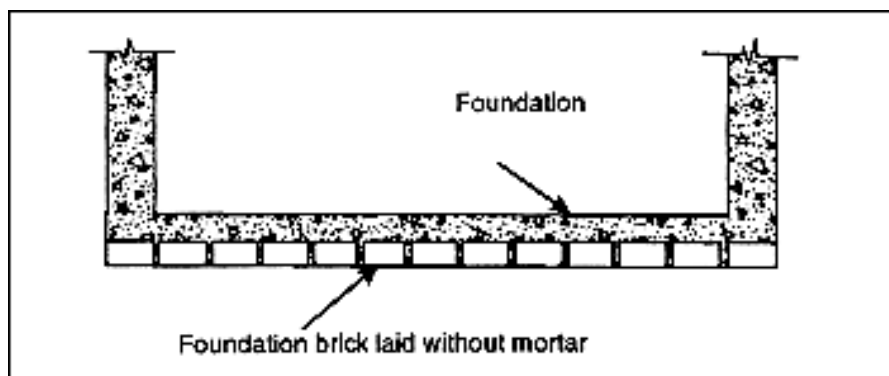

Figure 9-21. Determining number of bricks in one course and head-joint widths
Step 1. Lay out the bricks for the foundation without mortar first, as shown in Figure 9-21.